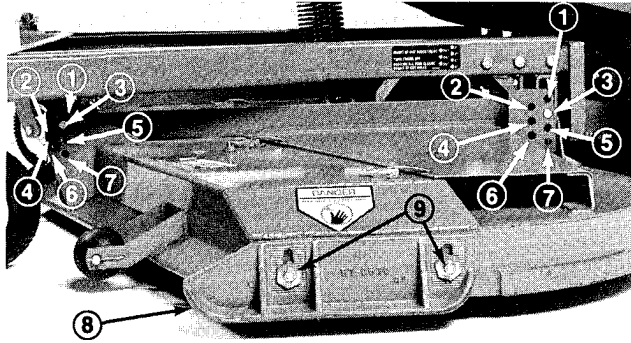

Figure 15
2. Adjust skid by loosening flangenuts, positioning skid as desired, and re-tightening flangenuts (Fig. 15).